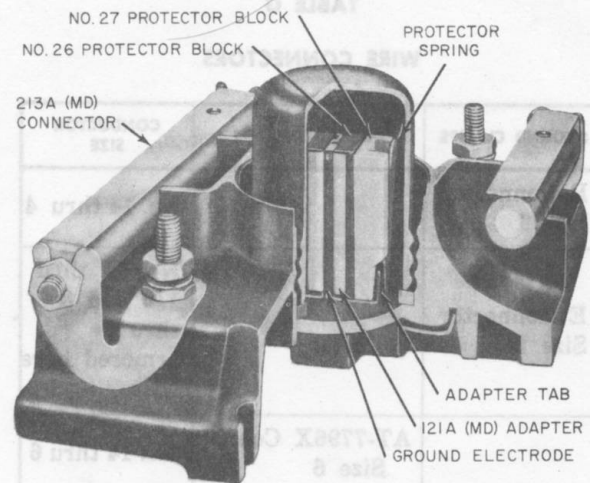

Fig. 49—Converted 98A (MD) Protector Using 121A (MD) Adapters and 213A (MD) Connectors
16.02 For conversion of 98A (MD) protectors that are in service, see Fig. 49 and 50. Connectors may be omitted as specified in 16.04(a).